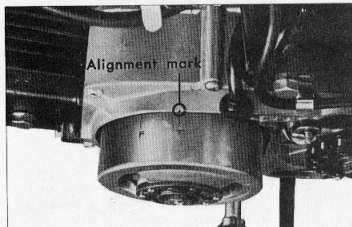

Figure 6-3. Aligning to the T timing mark
- Remove the left crankcase cover and align the timing mark "T" on the flywheel with the alignment mark on the crankcase. (Fig. 6-3)